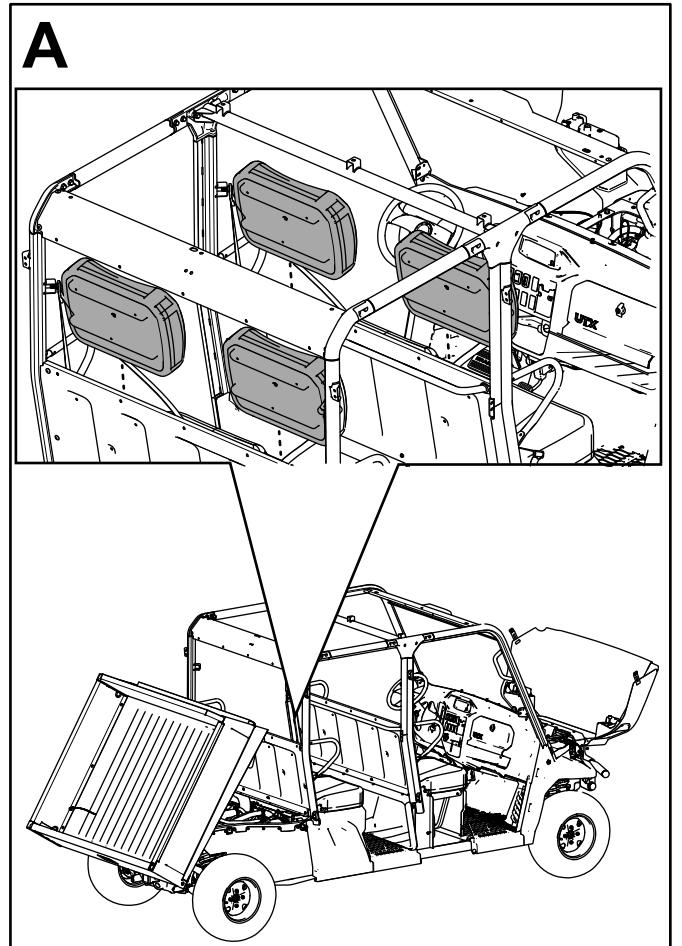

Figure 65
E. Secure the 4 seat backs to the seat panels using 11 hex-washer head bolts (1/4 x 3/4 inch) as shown in Figure 65.